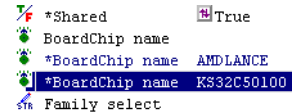

Figure 3-14 Setting up EtherRouter
10. Select the name of the other board group, for example AMDLANCE. A new entry is added to the right pane with an asterisk * beside it, shown in Figure 3-14.